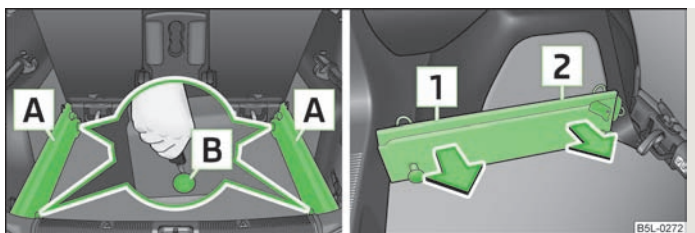

Fig. 61 Slacken check points/remove carrier rails
- Slacken the check points **B** » Fig. 61 on the carrier rails using the vehicle key or a flat screwdriver.